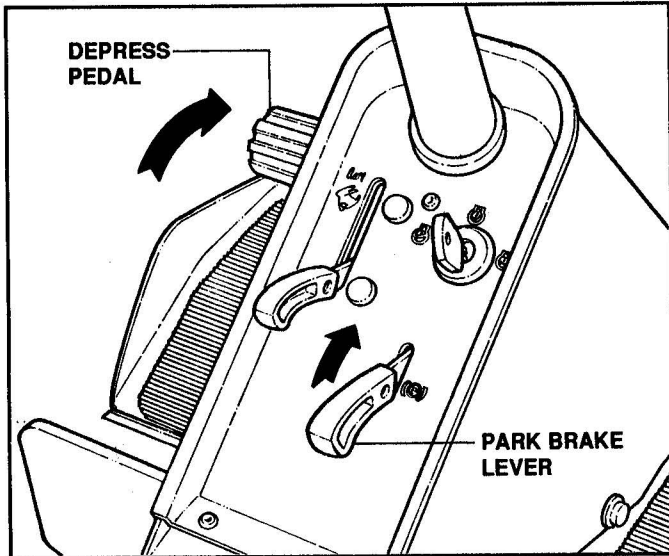

FIGURE 4.15
2. Depress clutch/brake pedal all the way down. Move and hold the park brake lever in the "ON" position and release the clutch/brake pedal to engage park brake. See Figure 4.15.